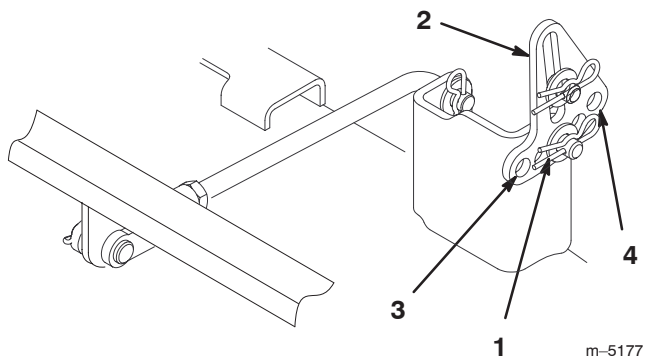

Figure 38
7. Remove the hairpin cotter and washer from the leveling bracket (Fig. 38). To level the blade(s), reposition the leveling bracket(s) in a different hole and install the washer and hairpin cotter (Fig. 38). A front hole lowers the blade height and a rear hole raises its height. Adjust both sides as required.